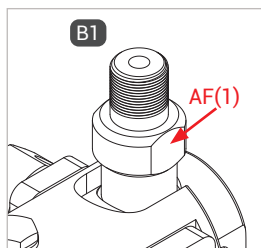

Figure 1
- ▶ When mounting the filling hose, hold an open-ended wrench against the wrench size AF(1) (Figure 1).
- ▶ Screw the media inlet "B1" pressure-tight onto the connection port of the filling hose (Figure 1). For the tightening torque, please refer to the table below. **Note:** For NPT thread, first wrap Teflon tape round the tapered screw fitting (1.5 layers). Screw it finger-tight into the port and install it in accordance with the information in the table below.